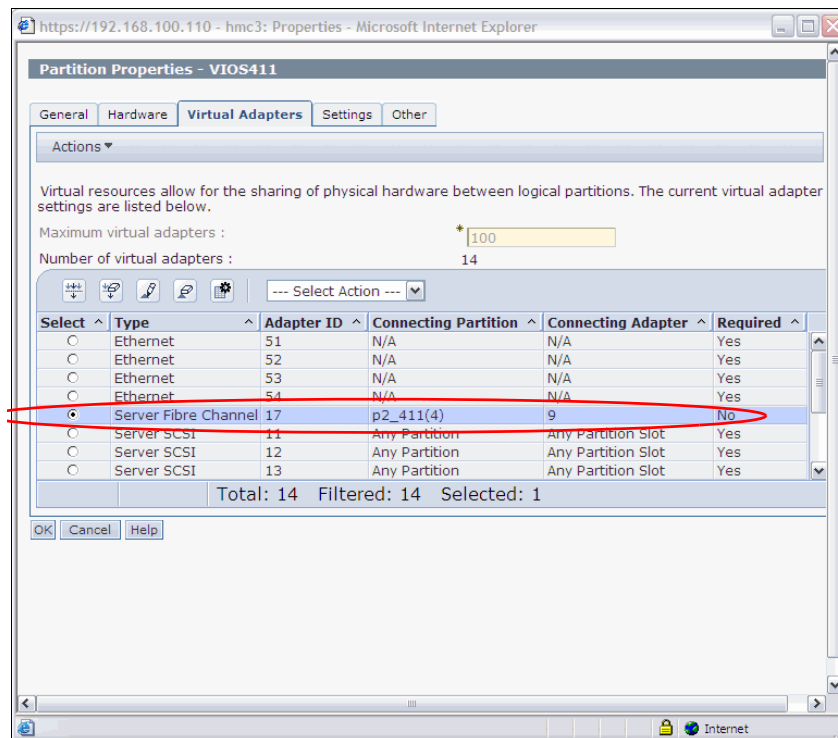

Figure 6-2 Virtual Fibre Channel Server Adapter on Virtual I/O Server
2. Create the virtual Fibre Channel server adapter on the Virtual I/O Server. Something similar to the highlighted portion of Figure 6-2 is what you should see when this step is complete.